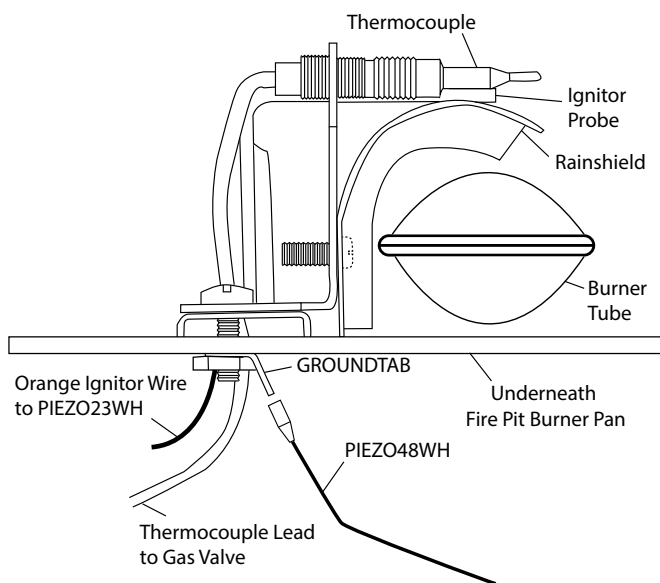

Fig. 14 Ground tab installation.
Step 6: The Ground Tab can be installed over the remaining screw (without the nut) and secure the tab with the other nut (See Fig 14). or choose an existing drain hole in the pan to secure the Ground Tab with a screw and nut.